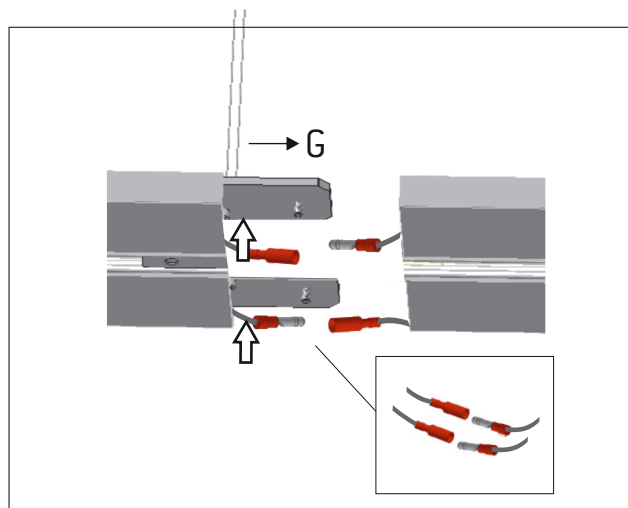

Figure 5
5 - Insert both steel wires (G) through the central holes in the metal pieces from the bottom. Repeat the action in both pieces and connect the electrical wires coming from the central track. Figure 5.